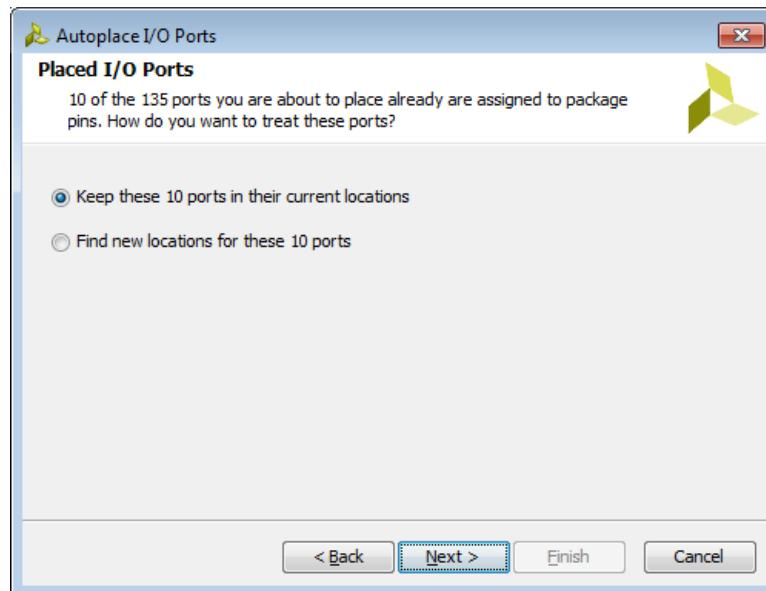

Figure 3-21: Autoplace I/O Ports Wizard—Placed I/O Ports Page
4. If you selected I/O ports that are already assigned to package pins, select an option in the Placed I/O Ports page (Figure 3-21), and click **Next**.